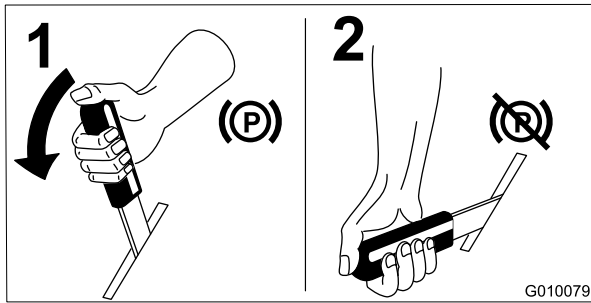

Figure 15
3. Set the parking brake (Figure 15); refer to Setting the Parking Brake.